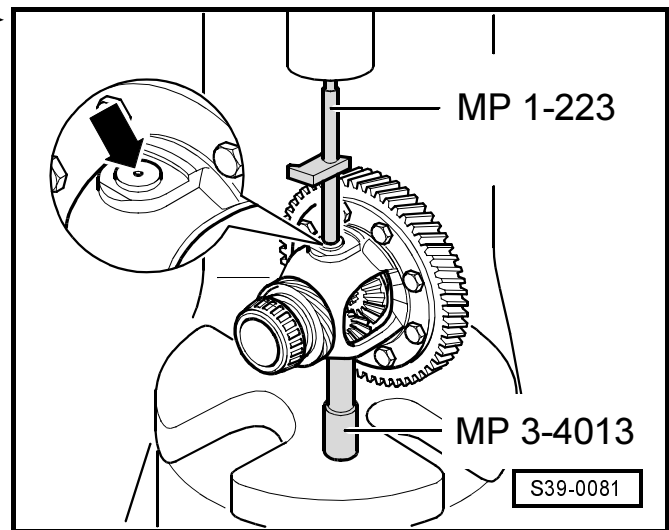

Fig. 10: Install differential bevel gears for gearbox up to 06.00 ▶
- Installation for gearbox up to 06/00 ⇒ Fig. 10 in **39-2** page 6